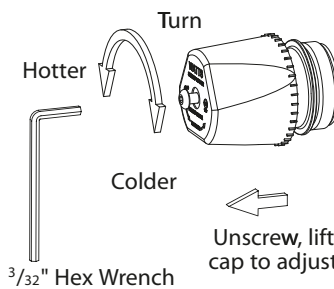

Figure 9.5.1 - Temperature Adjustment
3. To adjust the setting of the valve, loosen locking cap with hex wrench, see figure 9.5.1. Cap must be lifted 1/4" to adjust temperature. To increase the temperature, turn counterclockwise. To decrease temperature, turn clockwise.